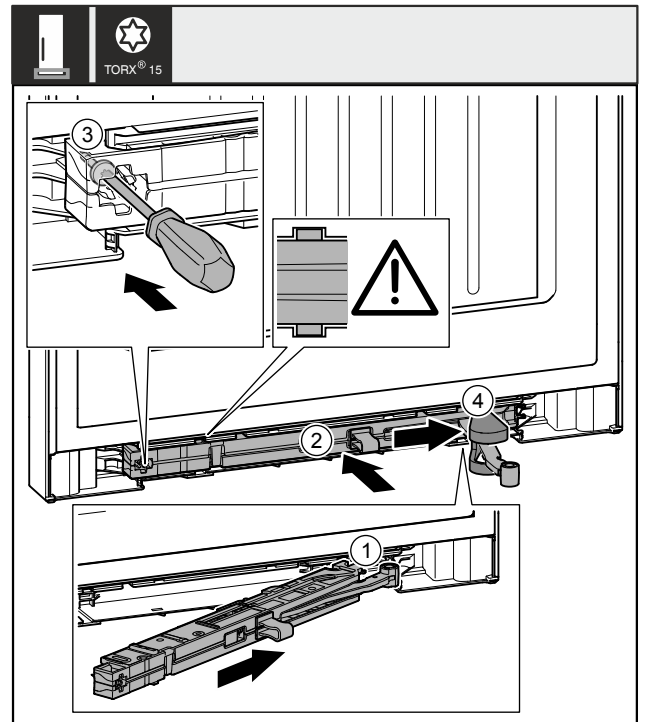

Fig. 52
- ▶ On the swap bearing block side, slide the closing damper unit Fig. 52 (1) into the recess at an angle up to the stop.
- ▶ Push the closing damper unit Fig. 52 (2) into the recess completely.
- ▶ Use a screwdriver to tighten the screw Fig. 52 (3).
- ▶ Push the cover Fig. 52 (4) over the joint.